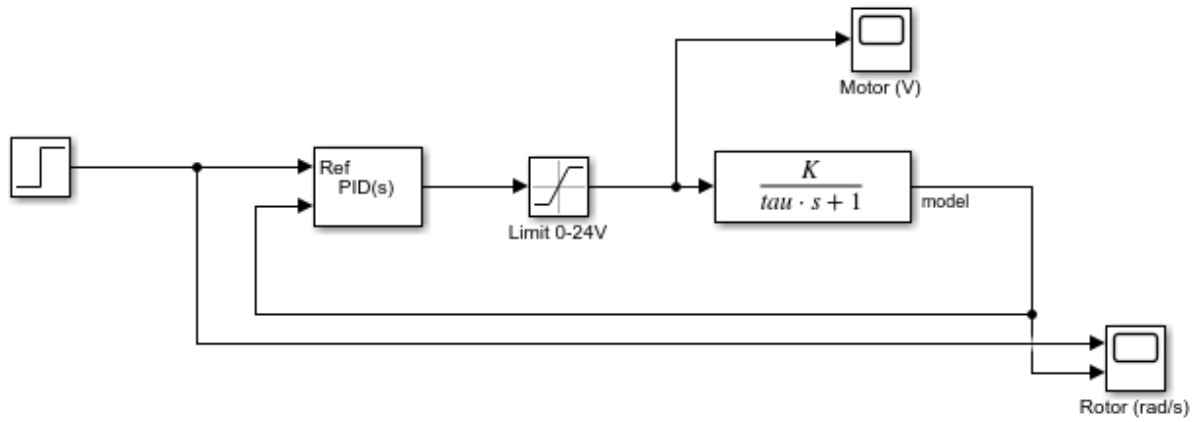

Figure 1 – Simulates the closed-loop rotor PI control speed response.
In this section, the PI rotor speed control is simulated using the rotor transfer function model found in the *Rotor Step Response Modelling* lab. The *s_aero2_rotor_pi* Simulink model shown in Figure 1 uses the Simulink *2 DOF PID Controller* block to implement the PI controller outlined in the Application Guide. The rotor speed reference and simulated response are displayed in the *Rotor (rad/s)* scope and the control input/motor rotor voltage is shown in the *Motor (V)* scope.